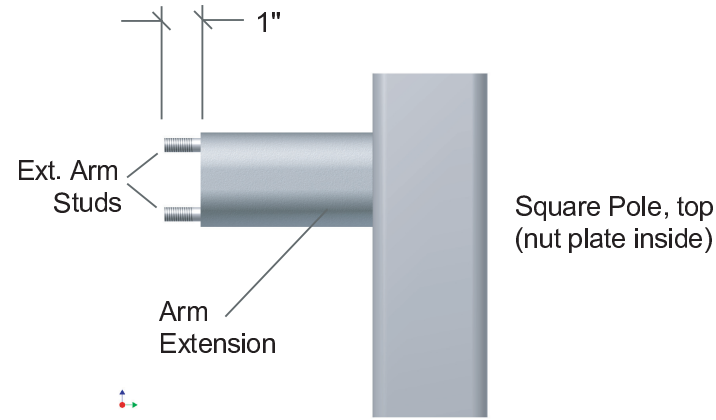

FIGURE 6
C. USING EXTENSION ARM ON SQUARE POLE - FIGURE 6
3. With nut plate inside pole, thread extension arm studs thru top and bottom extension arm holes, then thru top and bottom pole holes, then into nut plate. See Figure 6.